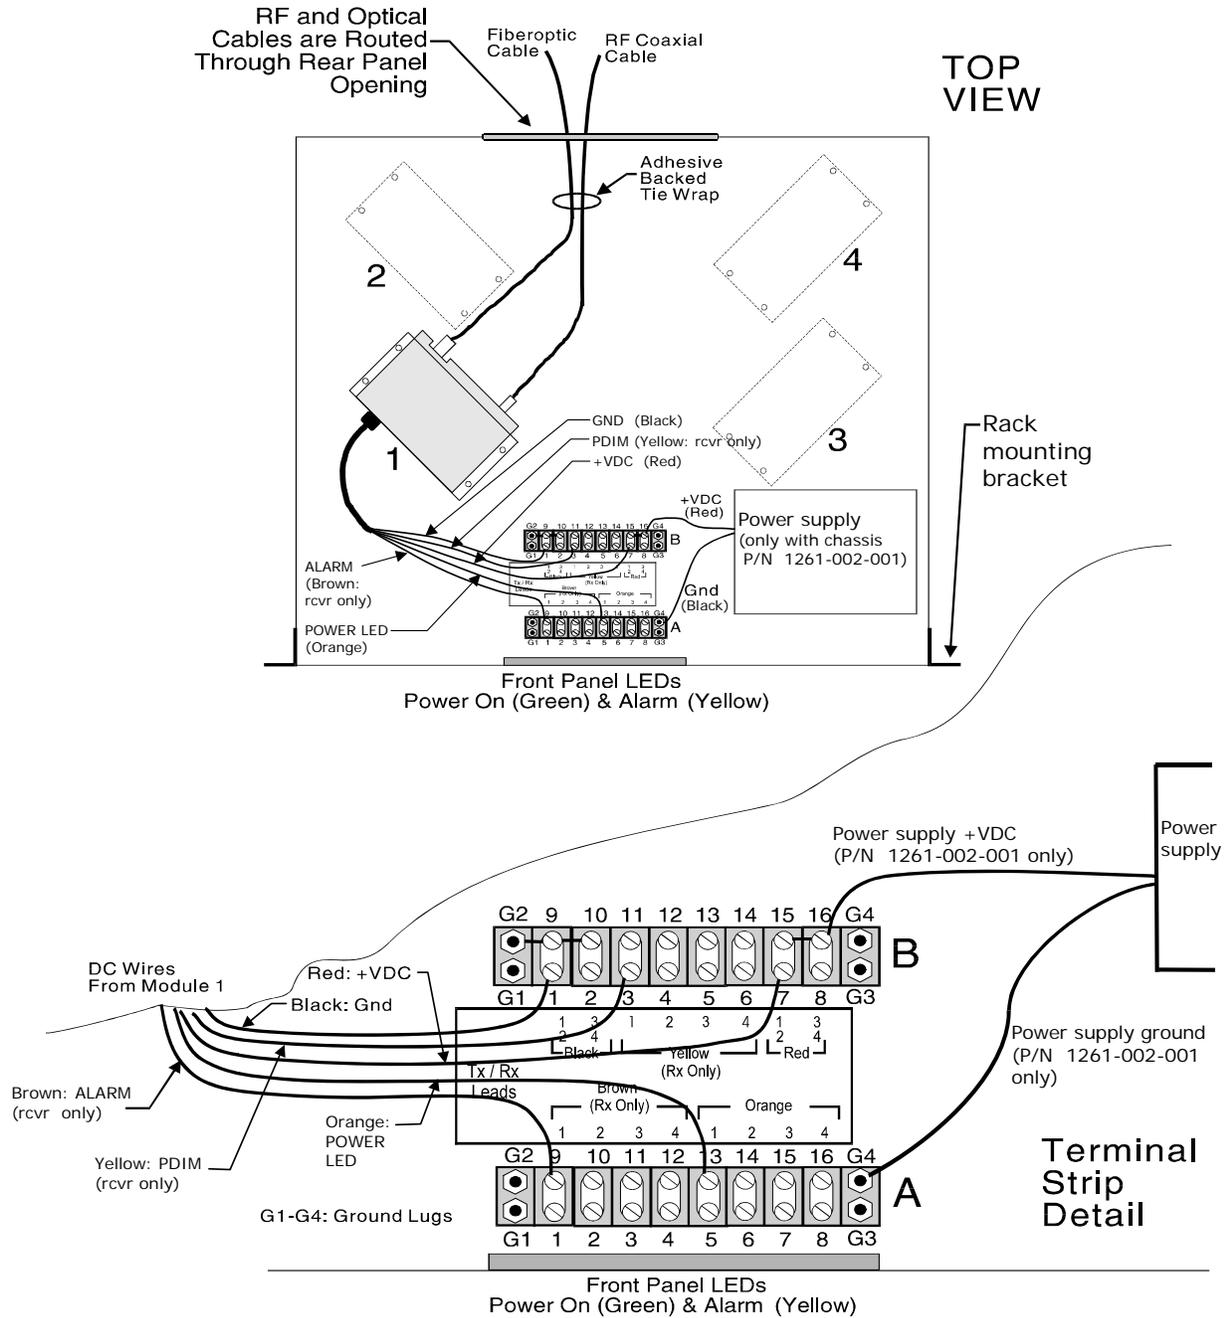
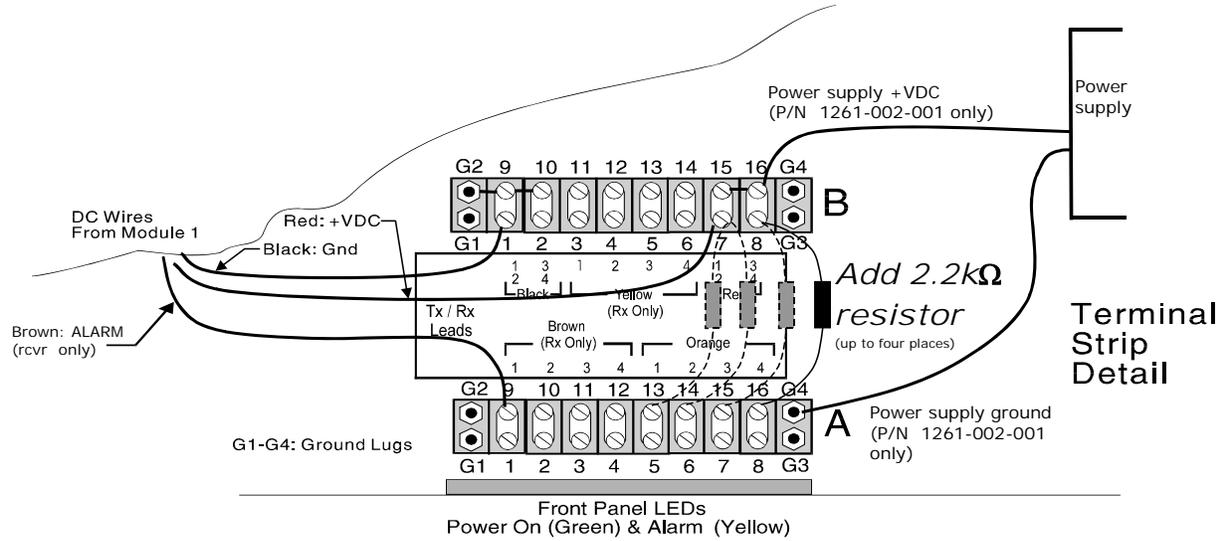

Figure 5-2. Installing flange-mount units in the 1U chassis.
Figure 5-3. Installing older flange-mount units with the three wire DC harness in the 1U chassis.
2. The DC connections are made to the terminal blocks as shown in Figure 5-2. Refer to Table 5-1 for a list of all the connections to be made. For older Model 31xx and 41xx fiberoptic transmitter and receiver modules (with the three wire DC harness), refer to Figure 5-3 for proper assembly information.